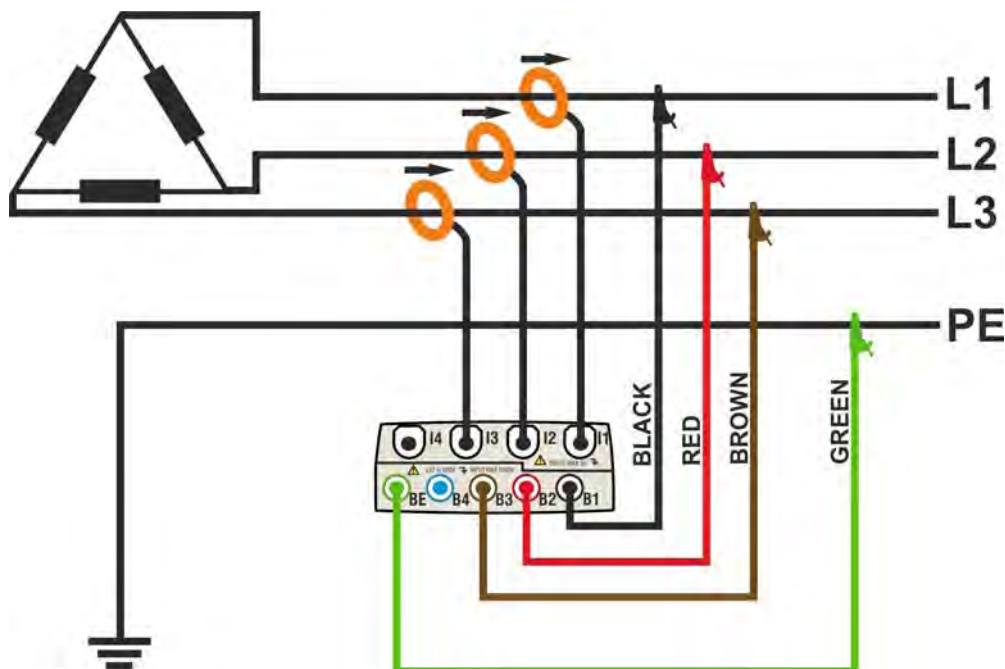

Fig. 136: Meter connection in a three phase ARON system – ENG type
2. Connect voltage test leads on Phases L1, L2, L3, and Ground cables considering the colours as shown in Fig. 136. **Verify the result “123” at display relative to a correct phase sequence indication** (see § 5.2.1) and perform the corrections if necessary.
3. Connect the transducer current clamps on Phase L1, L2, L3 cables as shown in Fig. 136 respecting the clamp's arrow direction indicating the current standard sequence from generator to load. **On Real Time Values' section screens (selecting a 3 wire system preliminarily) always verify the positive value of Active Power and the power factor relative to load which should be normally inductive** before starting a recording. Reverse the clamp by 180 degrees on cables in case of negative readings.